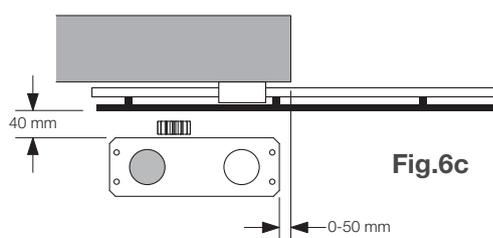

Fig.6c
- Fig. 6c installation with motor on the left